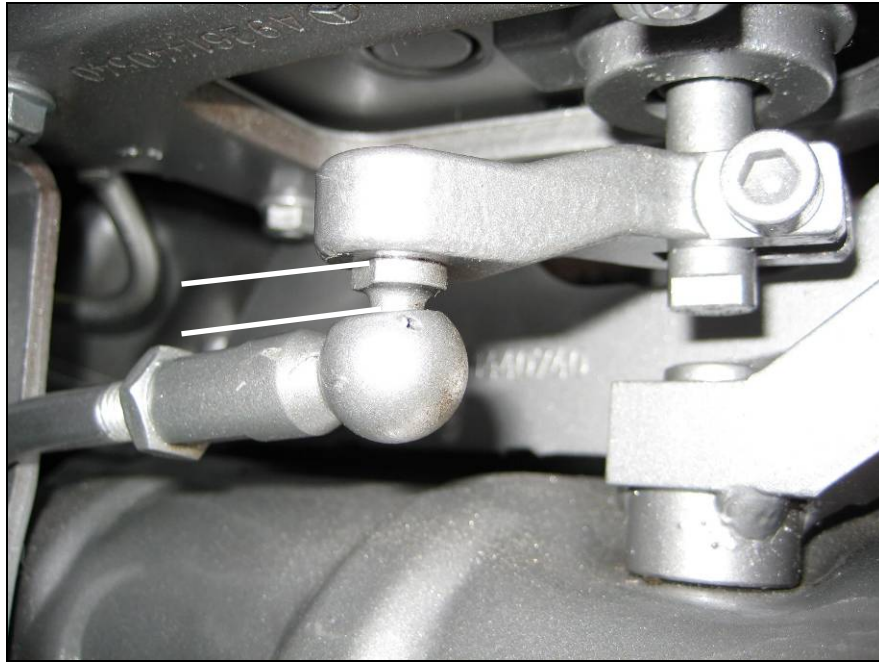

Figure 6 – Smart Remote Actuator Lever Adjustment
9. Reinstall the ball joint socket onto the SRA lever and align the flats of the ball joint sockets with the actuator and exhaust flap lever arms. See Figure 6.